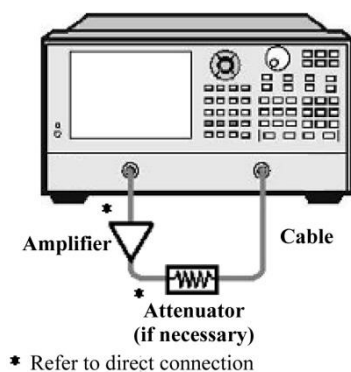

Fig. 8.19 Connection in AM-PM Transformation Measurement
- 5) As shown in Fig. 8.19, connect the amplifier and provide the DC bias.